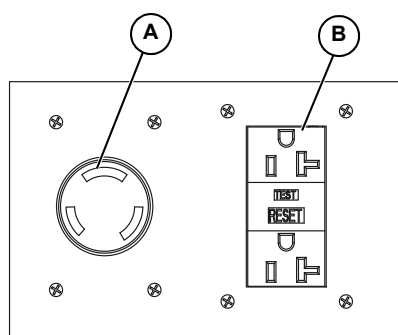

Figure 3-11. Convenience Receptacles
See Figure 3-11. The unit is equipped with convenience receptacles for powering accessories or tools from the generator. Power is supplied to the receptacles any time the engine is running and the main circuit breaker is switched to ON (I). Each receptacle has an individual circuit breaker, located on the control box. Refer to Control Panel.